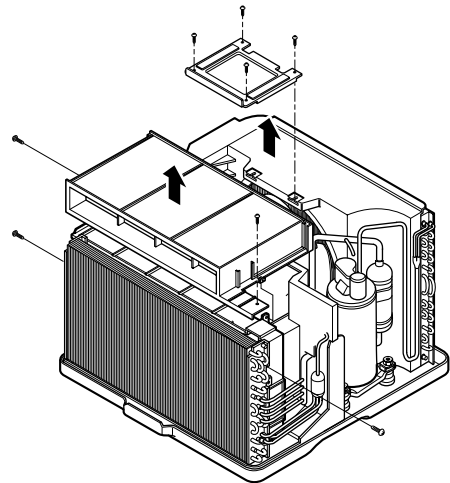

Figure 4
7. Remove the air guide upper.(See figure 4)